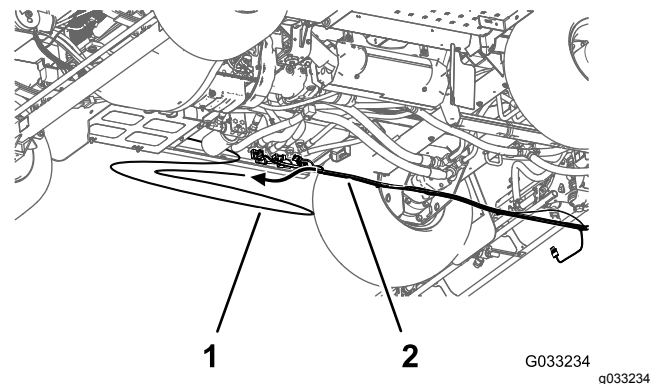

Figure 29
8. Remove the pressure-sense tube for the dash gauge from the rear wire harness from the machine (Figure 29).